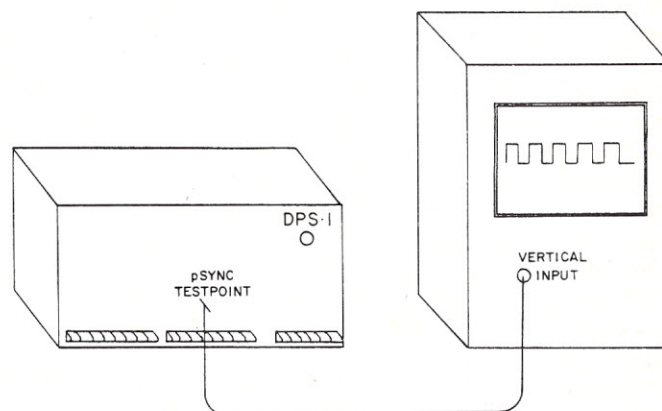

Fig. 1. Combining an oscilloscope and the DPS-1 to check computer timing.
3. Using the Continuous Examine function, hook up your scope as shown in Fig. 1. This repeats the Examine function at the rate of about 1 kHz so that a stable display is presented for viewing.